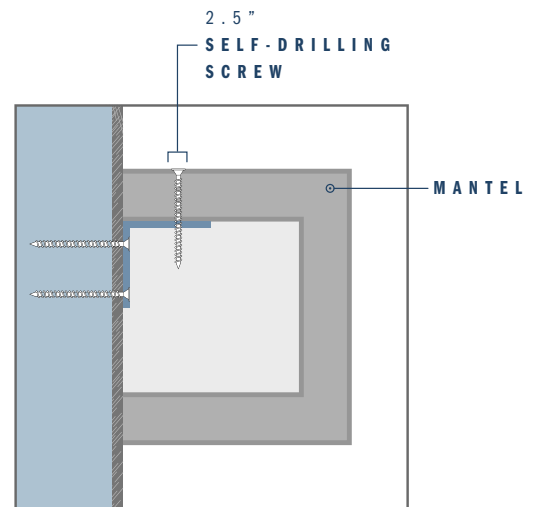

Figure 3: Side Mount with Mantel
*Step 5.* With two people, lift mantel and place over mounting bracket. When centered and flush against the wall, place one 2 1/4" self-drilling screw in the center pre-drilled hole on top of mantel. Screw through mounting angle until fastener head is flush with countersunk hole. **See Figure 3**